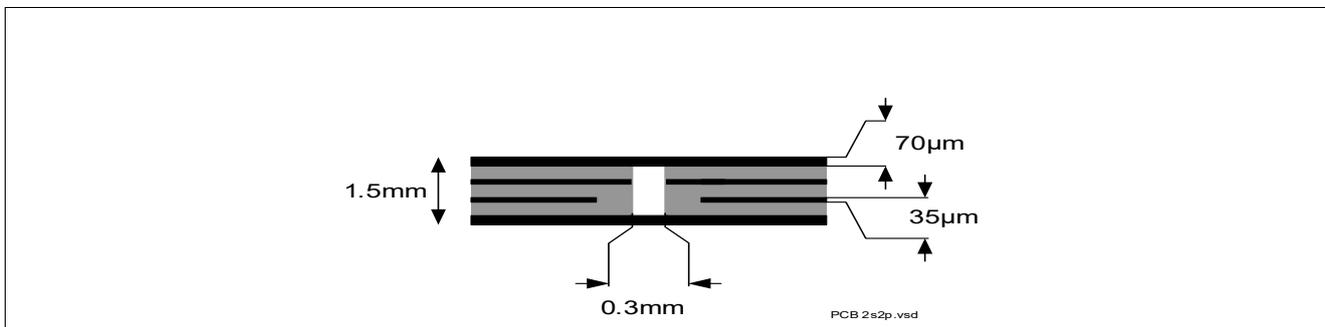

Figure 4 2s2p PCB Cross-Section
2) Specified  $R_{thJA}$  value is according to JEDEC JESD51-2,-5,-7 at natural convection on FR4 2s2p board with 1 W power dissipation equally dissipated for both channel at  $T_A=105^\circ\text{C}$ ; The product (chip + package) was simulated on a 76.4 x 114.3 x 1.5 mm board with 2 inner copper layers (2 x 70  $\mu\text{m}$  Cu, 2 x 35  $\mu\text{m}$  Cu). Where applicable, a thermal via array under the exposed pad contacts the first inner copper layer. Please refer to Figure 4.